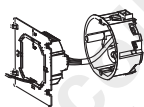

Fig. 2
2. Connect the thermostat to the power source via the appropriate terminals (Fig. 2).